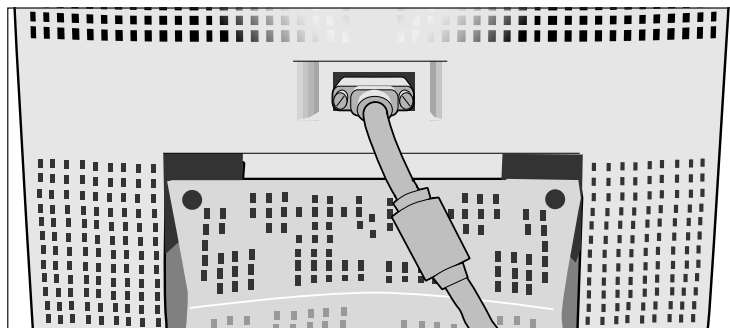

Figure C.1
3. For the MultiSync LCD400: Connect the 15-pin mini D-SUB of the video signal cable to the appropriate connector on the back of the monitor (**Figure C.1**). For the MultiSync LCD2000: Connect the BNC cables to the appropriate connectors on the back of the monitor. Connect the red BNC cable to the BNC connector on the monitor labeled R, the green BNC cable to the BNC connector labeled G/Sync, the blue BNC cable to the BNC connector labeled B. If you have a fourth BNC connector (Composite Sync), connect it to the BNC connector on the monitor labeled H/CS. If you have a fifth BNC connector (Vertical Sync), connect it to the BNC connector on the monitor labeled VS (**Figure D.1**).